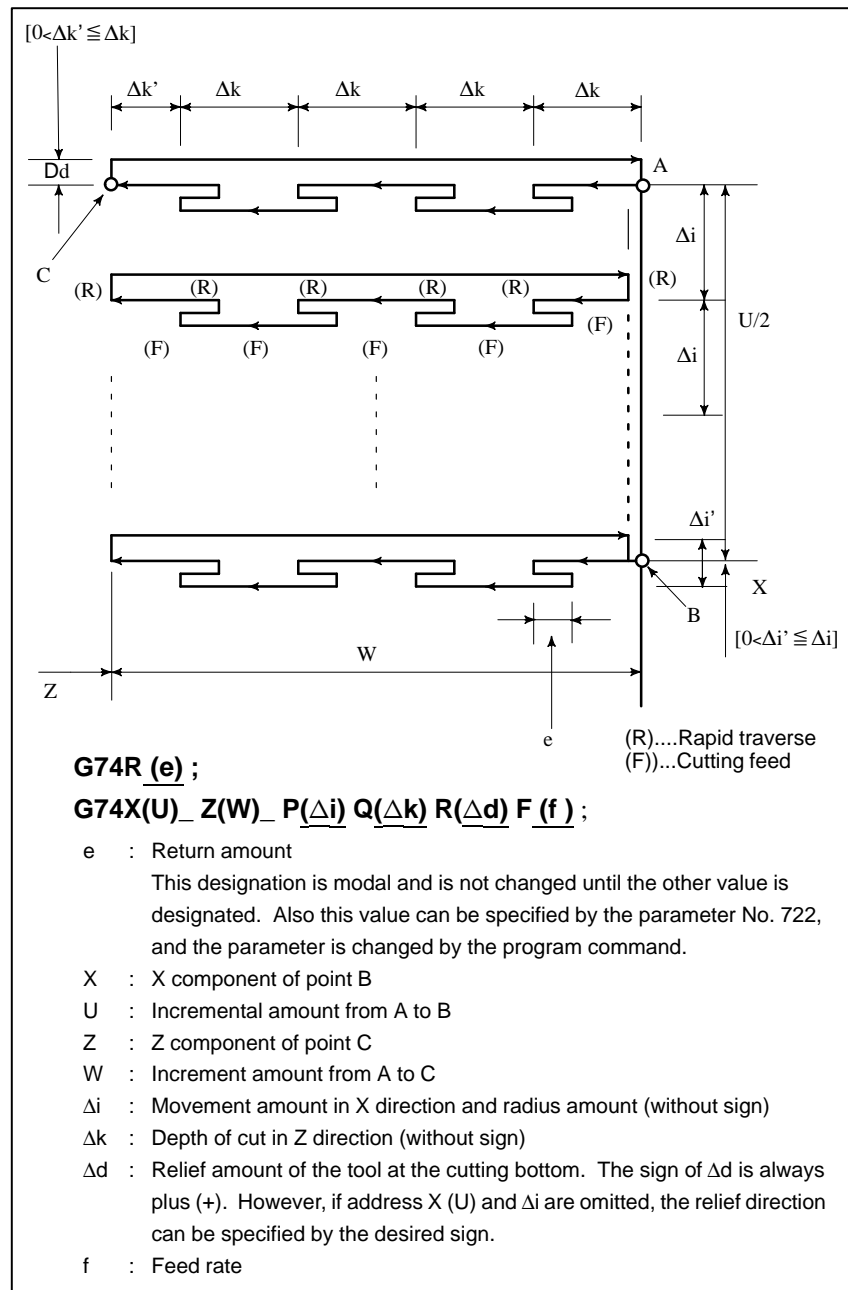

Fig. 13.2.5 (a) Cutting Path in End Face Peck Drilling Cycle
The following program generates the cutting path shown in Fig. 13.2.5 (a). Chip breaking is possible in this cycle as shown below. If X (3) and Pare omitted, operation only in the Z axis results, to be used for drilling.